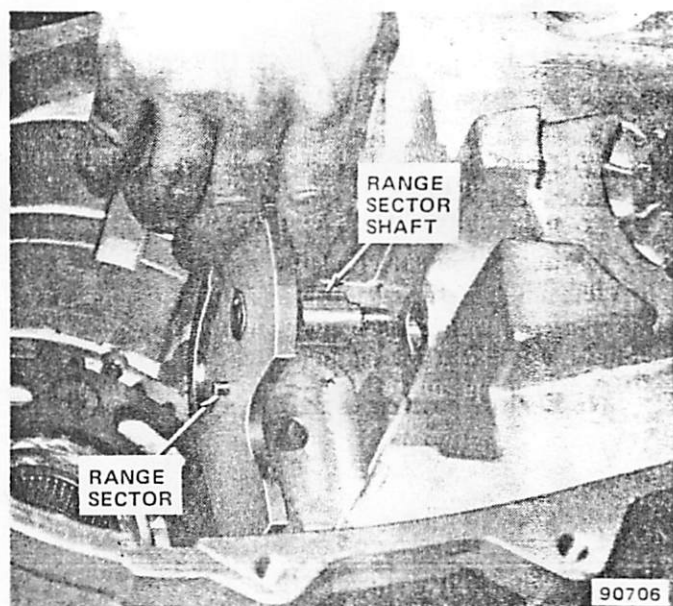

Fig. 2D-63 Range Sector Installation
(7) Install new sector shaft O-ring and retainer in shaft bore in case.
(8) Install range sector in front case (fig. 2D-63). Install operating lever on sector shaft and install lever attaching washer and locknut on shaft. Tighten locknut to 17 foot-pounds (23 N•m) torque.
(9) Install detent spring, ball and retaining bolt in front case detent bore. Tighten bolt to 22 foot-pounds (30 N•m) torque (fig. 2D-10).
(10) Move range sector to last detent position.
(11) Assemble annulus gear and range fork. Install assembled fork and gear on and over planetary assembly. Be sure annulus gear is fully meshed with planetary pinions (fig. 2D-59).
(12) Insert range fork lug in range sector detent slot (fig. 2D-21).